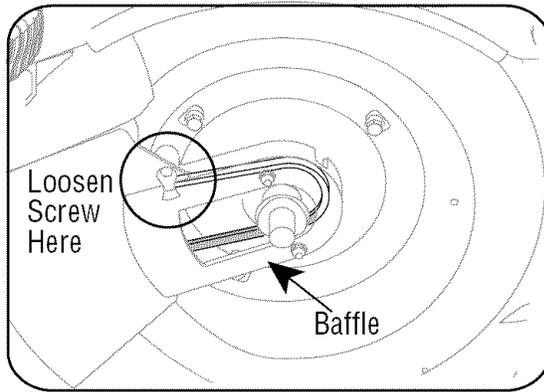

Figure 8
5. Loosen self-tapping screw that secures deck baffle to the deck. See Figure 8.